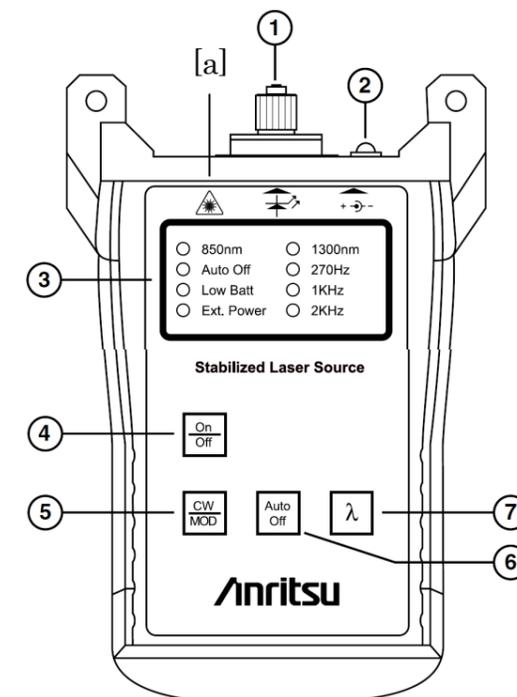

Figure 2 CMA5 Series Light Source Operating Controls
a. **Hazard Symbol:** It is located on the front panel that identifies the Class 1 laser port (See Figure 2)